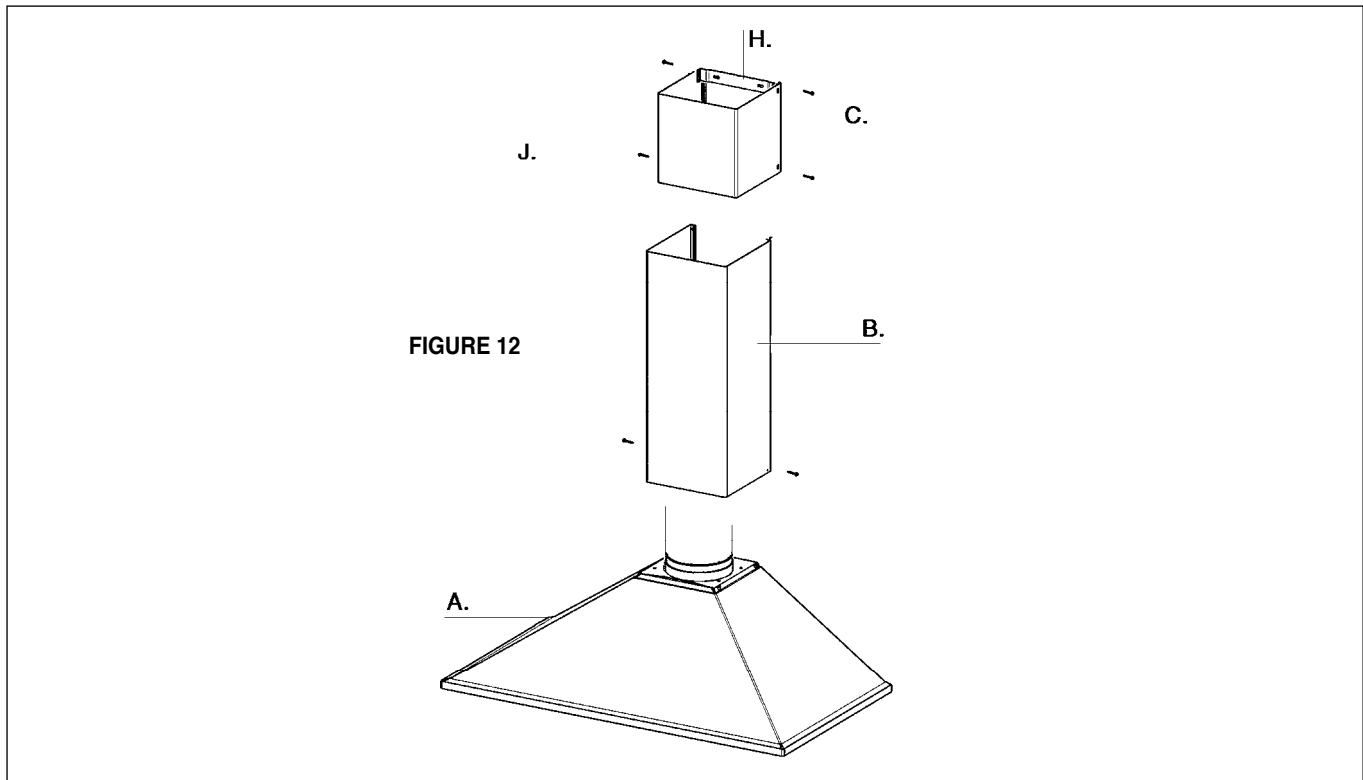

FIGURE 12
9. The chimney must be attached to the body of the rangehood, as indicated in **FIGURE 12**. The UPPER CHIMNEY COVER (**C**) must be installed first, then the LOWER CHIMNEY COVER (**B**) wraps around it. Both sections are secured to the wall under the CHIMNEY MOUNTING BRACKETS (**H**). Secure the UPPER CHIMNEY COVER to the MOUNTING BRACKETS with the CHIMNEY SCREWS (**J**). Secure the LOWER CHIMNEY COVER to the CANOPY SECTION (**A**) with the CHIMNEY SCREWS (**J**).